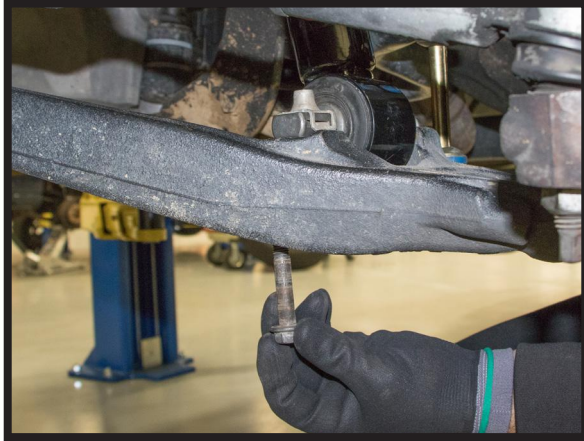

FIGURE 40
3. REINSTALL THE BOTTOM MOUNTING BOLTS AND NUTS AND TIGHTEN TO MANUFACTURER'S SPECIFICATIONS. (FIGURES 40, 41)